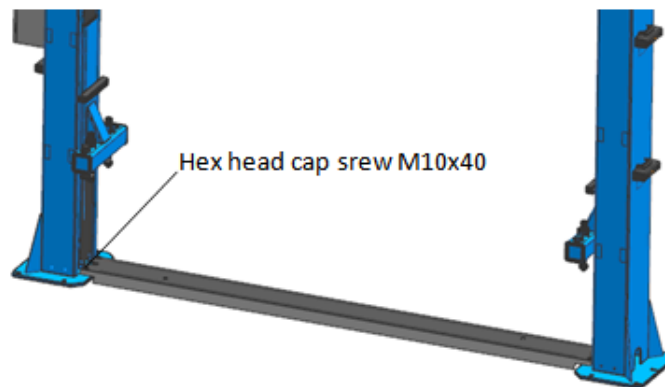

Fig.9
Step 8: Install base cover plate. (Fig.9)